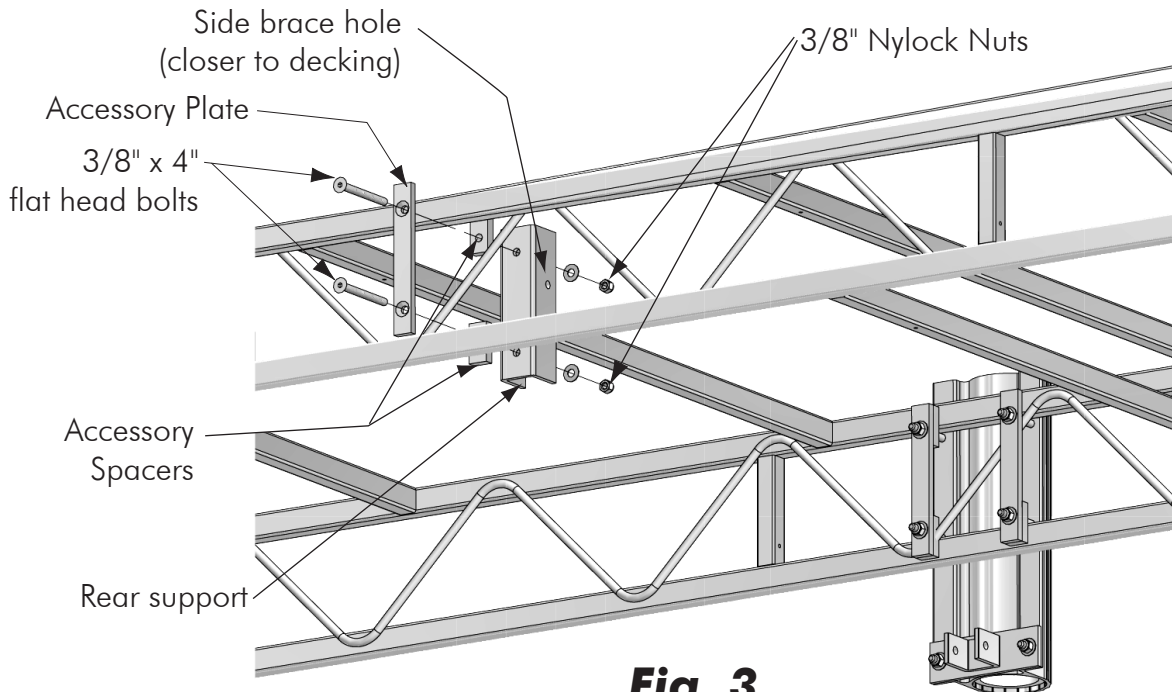

Fig. 3
- On 4' and 6' wide dock sections, attach the rear support to the opposite side of the dock as shown in Fig. 3. The rear support should be attached so it is centered and in-line with hammock mount installed in step 1. Insert the 3/8" x 4" flat head bolts through the attachment plate so the bolts seat in the attachment plate countersunk holes. Slide (2) accessory spacers over each bolt, unless the webbing is too close, in which case only one spacer is needed. Slide the rear support over the bolts so the side brace hole is closest to the decking and fasten with 3/8" flat washers and nylock nuts. Torque to 35 ft/lbs.